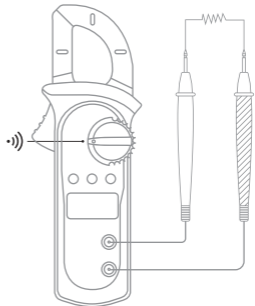

Figure 7
- The unit of diode is volt (V), displaying the forward voltage drop readings.
E. Testing for Continuity (Figure 7)